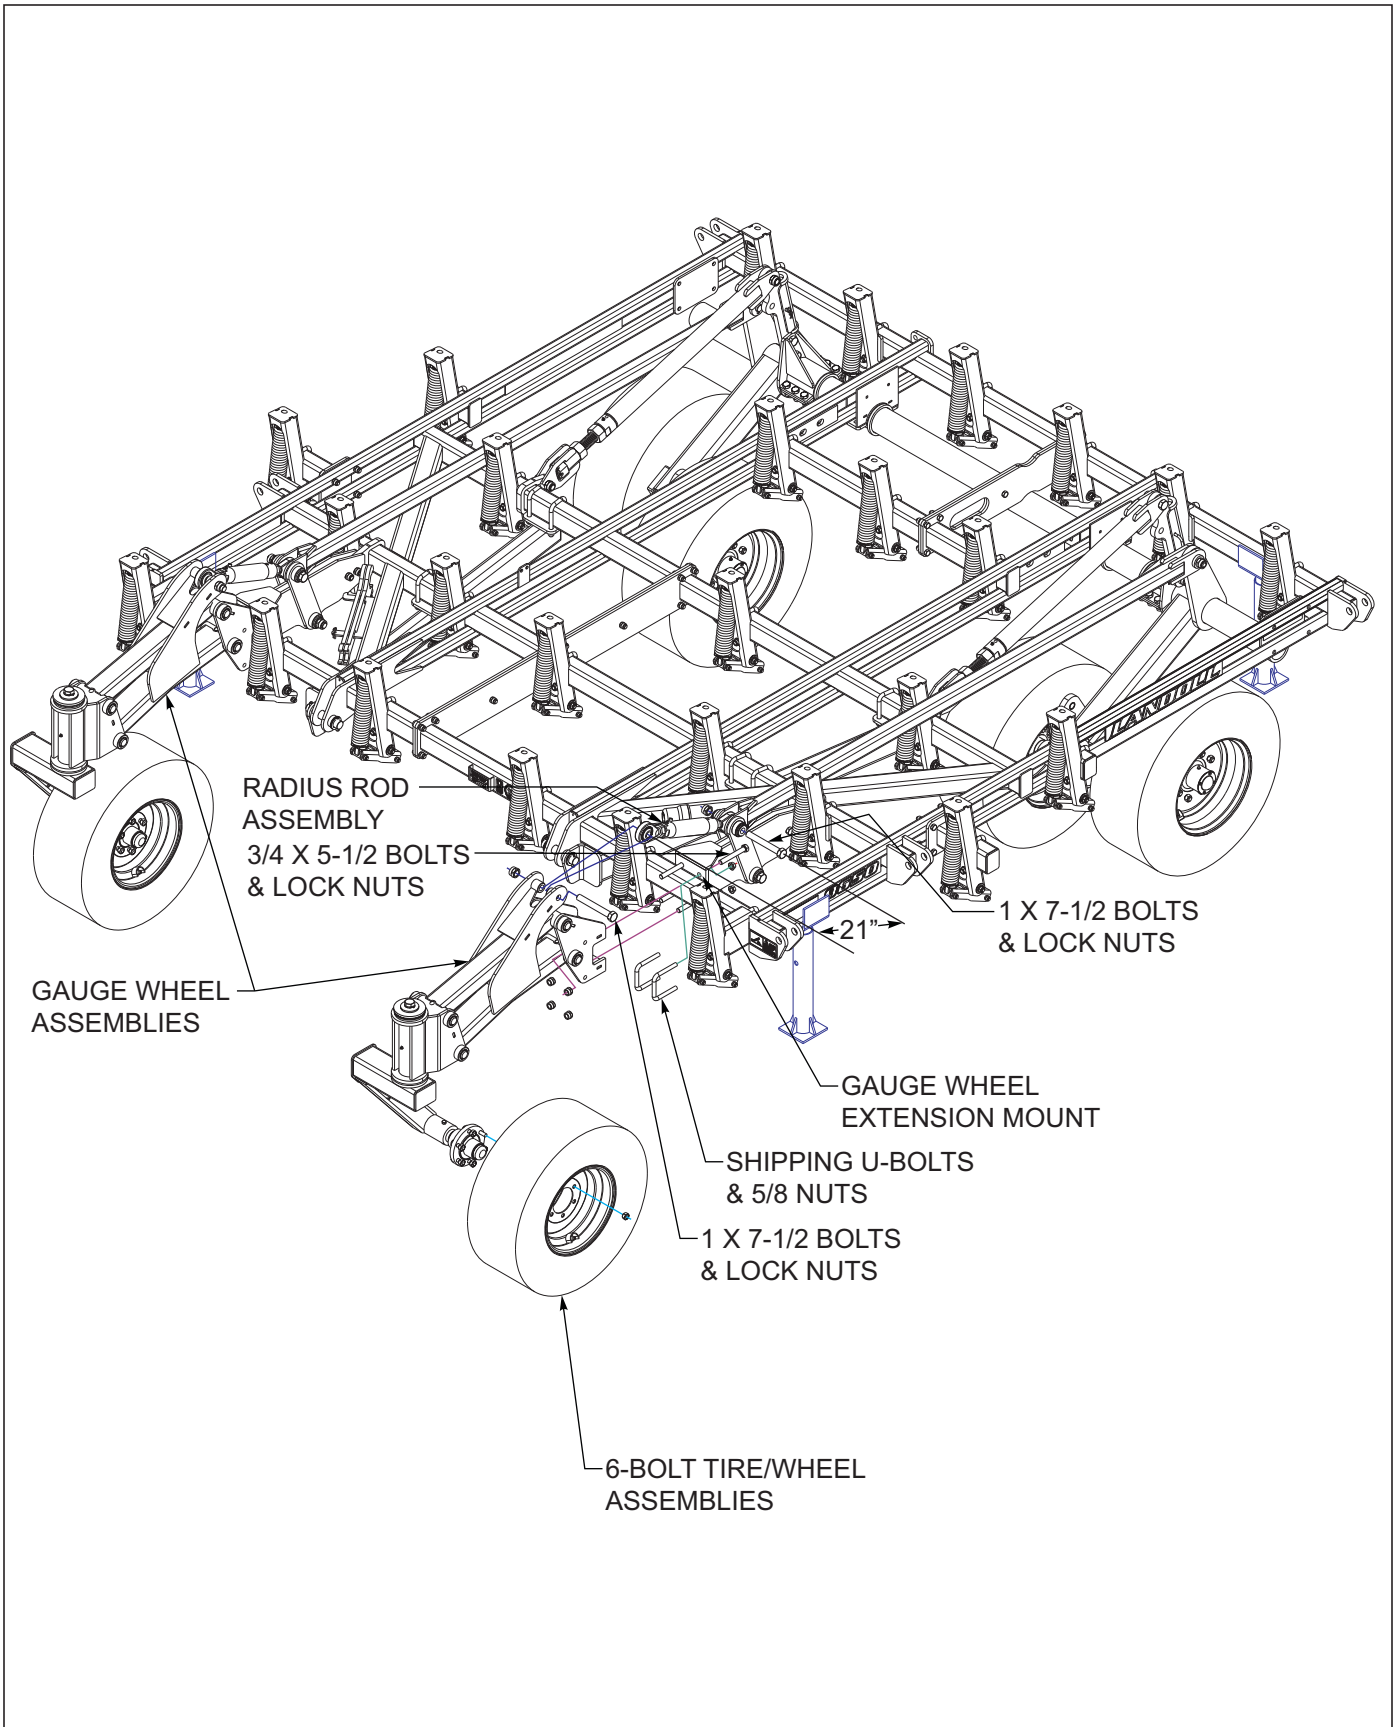

Figure 3-4: Gauge Wheel Assembly Center
1. Remove the shipping u-bolts and nuts from front of the gauge wheel extension mounts **See Figure 3-4.**